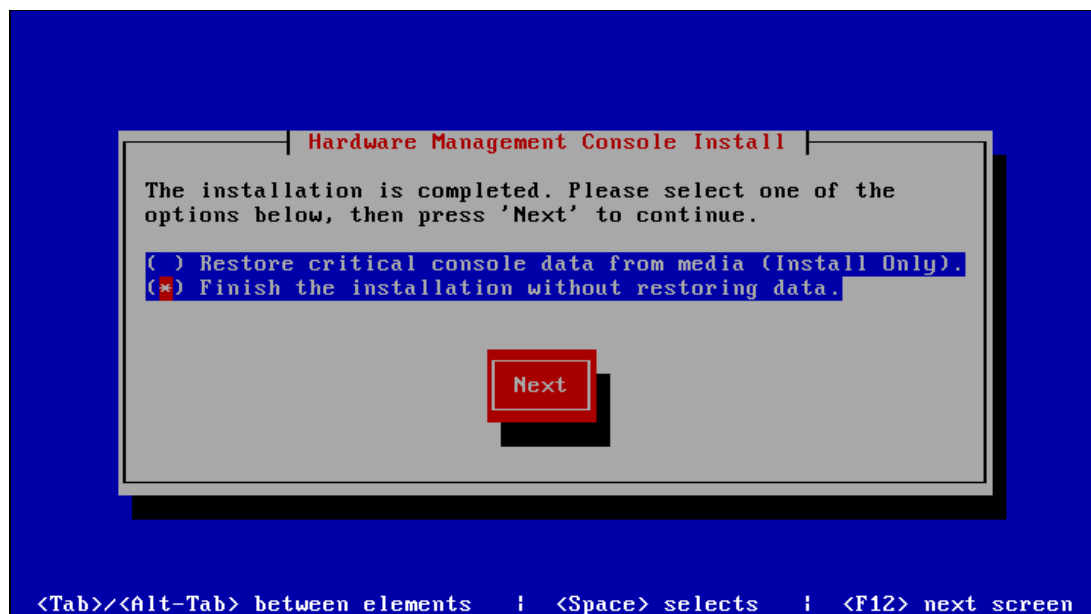

Figure 3-75 Finish Installation
- When the HMC Wizard finishes the installation (Figure 3-75), use the cursor to move to **Finish**, and then use Space or Tab to select **Next** and press Enter.